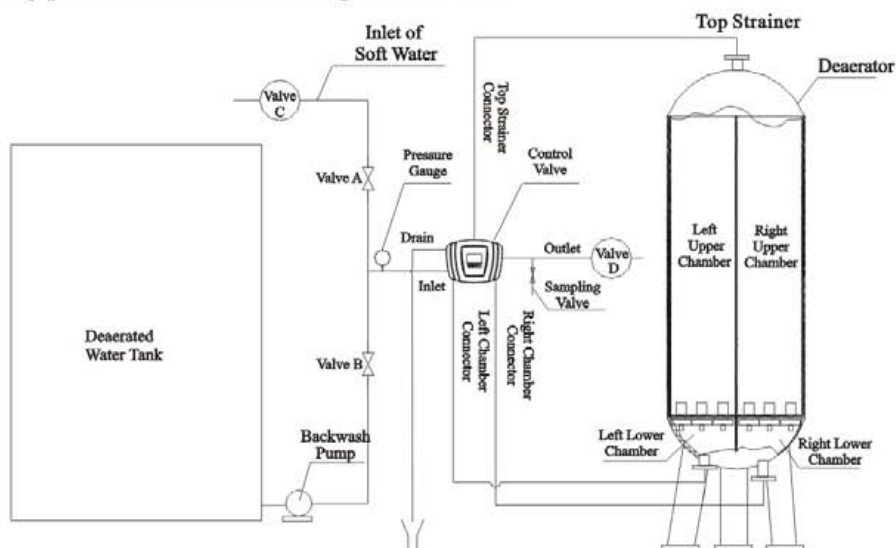

Figure 1-1
The pipeline installation is like Figure 1-1 shows.
①Inlet pipeline installation.
a.As Figure1-1 shows, install a pressure gauge in water inlet.
②Outlet pipeline installation.
As Figure1-1 shows, install a sampling valve and manual valve D in outlet.
As Figure1-1 shows, install valves ' relative connectors with left chamber, right chamber and top strainer of deaerator.